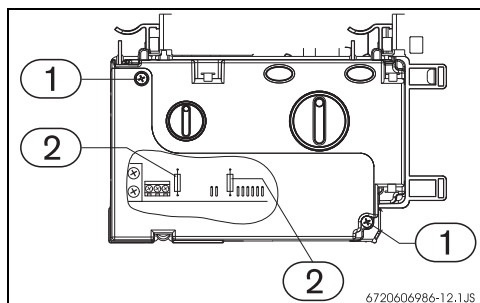

Fig. 22 Control box
- ▶ Remove the fuses from the box (Fig. 22, [1]) and remove cap.
- ▶ Replace fuses (Fig. 22, [2]).